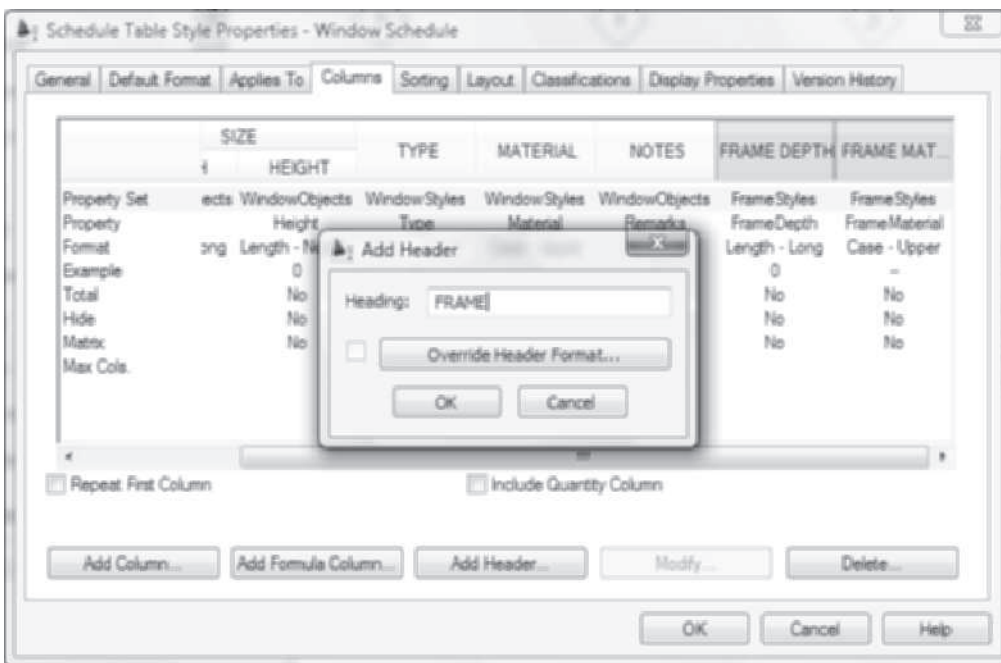

FIGURE 11.63 Adding a header
14. In this step a header is added for the new columns added in the previous steps. Hold down CTRL and select the **FRAME DEPTH** and **FRAME MATERIAL** column headings. Click the **Add Header** button and type **FRAME** in the **Add Header** dialog box as shown in Figure 11.63. Click **OK** to dismiss all dialog boxes.